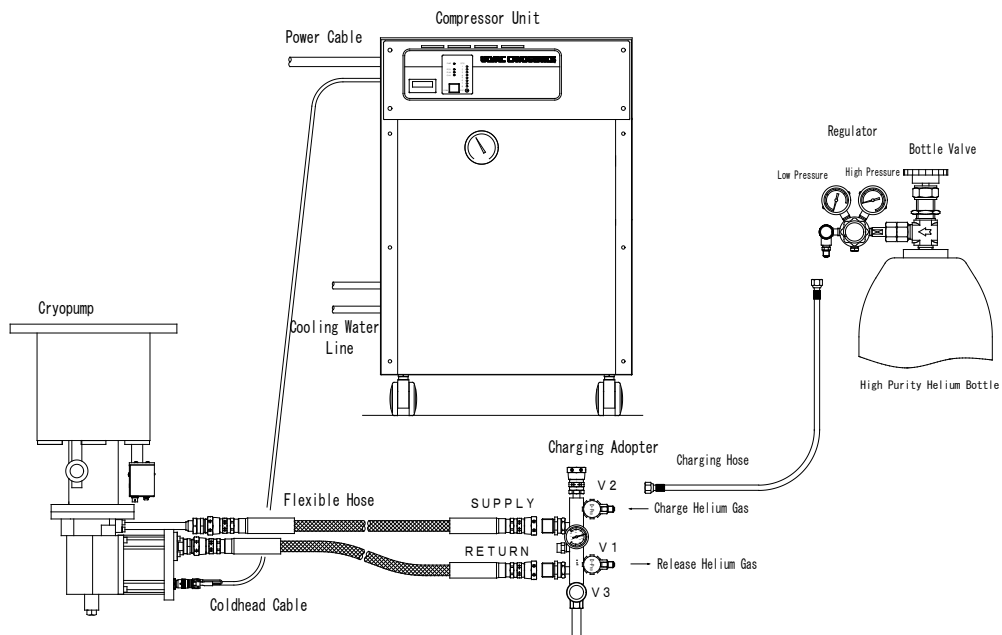

Figure 8-5 Cryopump Decontamination Procedure (2)
- g. Startup the compressor unit to operate the refrigerator unit. By operating the refrigerator unit, helium gas is circulated through the refrigerator and the flexible hoses. See Figure 8-5.